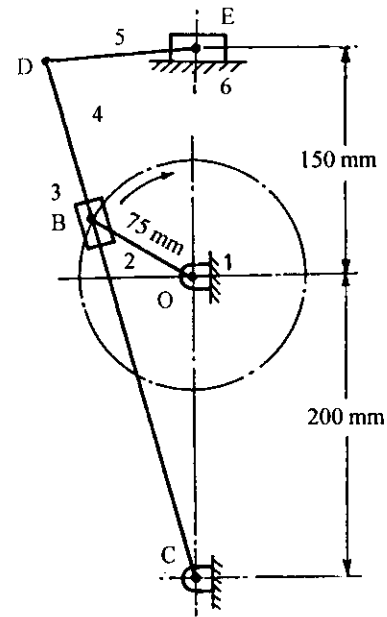

Fig. 3.38
7. In the mechanism shown in fig.3.38 the crank OB makes 200 rpm in clockwise direction. The lengths of the links are : OB = 75 mm, CD = 355 mm, DE = 100 mm. The angle made by the crank with the horizontal is 30°. Determine